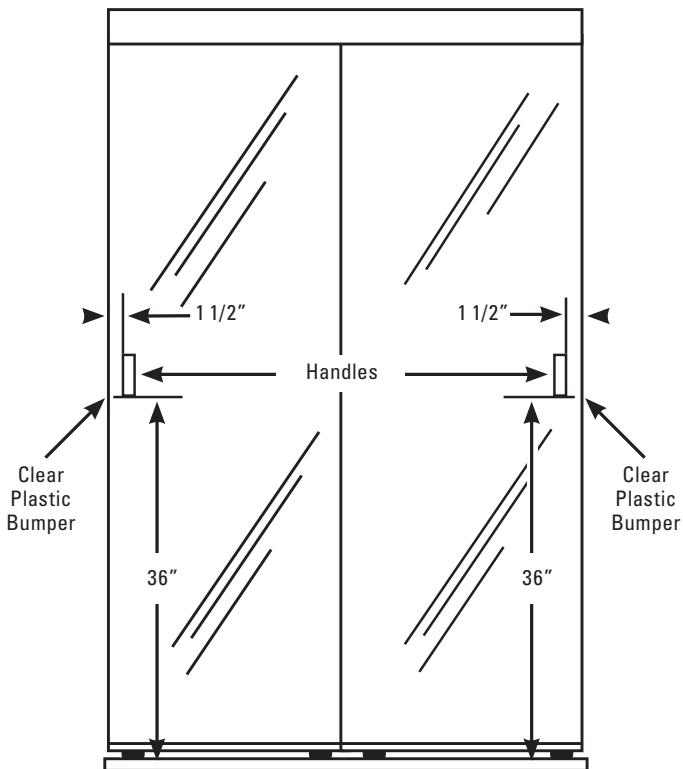

Figure 7
A. Clean Mirror in the area where the Mirror Handles will be applied. Peel film off the back of the Mirror Handles. Position each Mirror Handle 36" from the bottom of the Door Panel and 1-1/2" from the Side Mold on each Door Panel (See **Figure 7**).
A. Peel film off the back of the Clear Plastic Bumpers and place on the edge of the Door Panel frame 36" up from the bottom of the Door Panel. The Clear Plastic Bumpers will cushion and protect the door and wall when you close the wardrobe doors (See **Figure 7**).